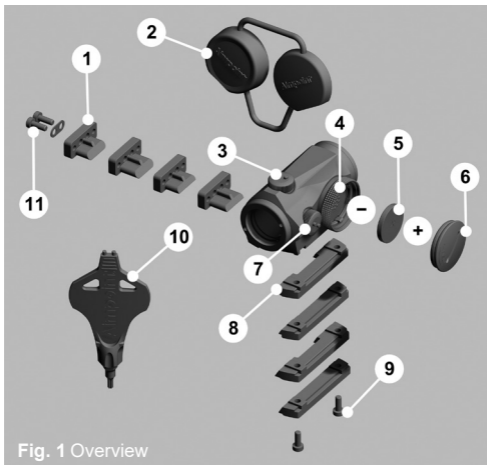

Fig. 1 Overview
- 2 Insert **BATTERY (CR2032)** with the positive end (+) toward the **BATTERY CAP** as can be seen in Fig. 1.